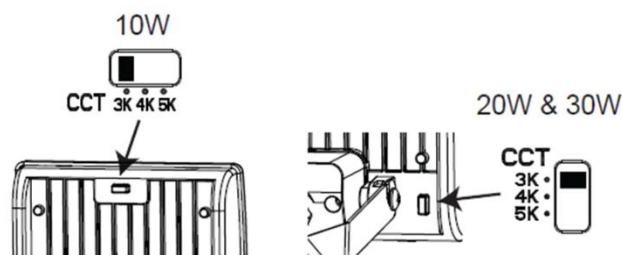

Fig. 1
7. Select the colour temperature CCT (3000K, 4000K, 5000K) by toggling the switch knob at the rear of the luminaire. (see Fig. 1)